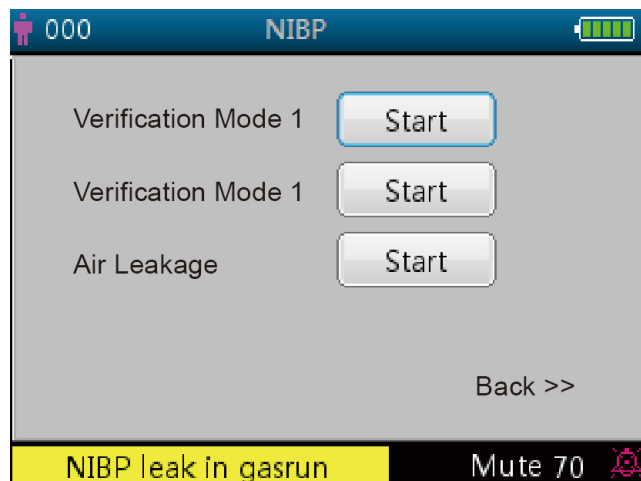

Figure 4.10 NIBP verification setup screen
- ✧ "More >> ": page down icon. Move the cursor to the last item ("Lock"), then short press the Down "⏴" key to enter into NIBP verification setup screen, as shown in figure 4.10.